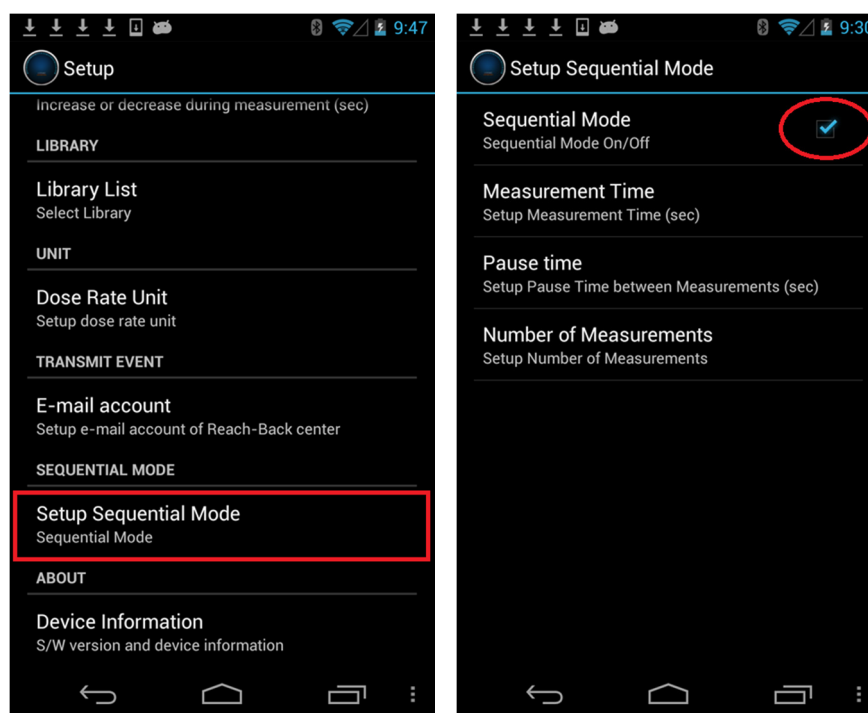

Figure 4.26. Sequential mode setup
2. To enable Sequential mode, place a check in the box (Figure 4.26).
If **Sequential mode** does not appear on the bar, it is currently disabled. To enable, make sure there is a check in the box as shown in Figure 4.26.